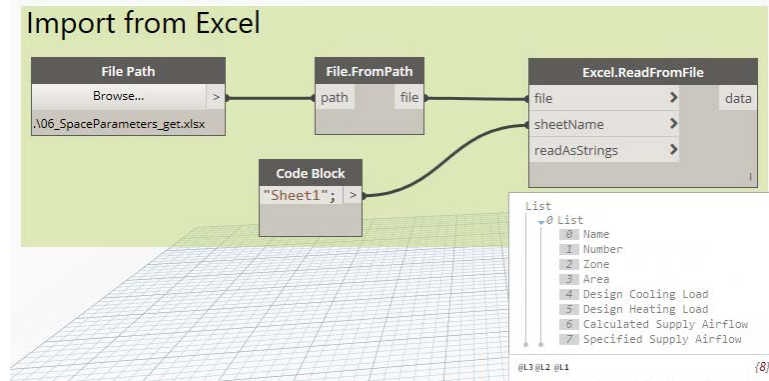

Figure 60
12. Select all the nodes and group them. Name the group: **Import from Excel** (see Figure 60).